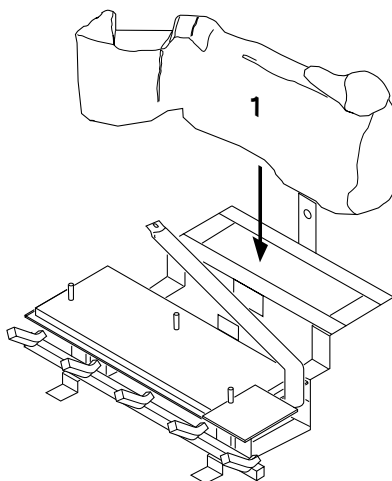

Figure 53 - Installing Log No. 1
1. Place log#1 (back log) on grate. Make sure the lower middle section of the log fits securely into the open area in back of grate (see Figure 53).